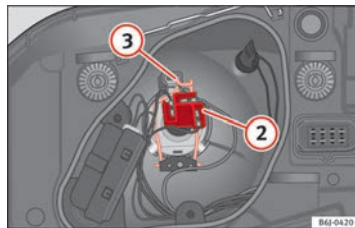

Fig. 159 Dipped beam/main beam, single headlight. ▶
- Remove connector ⇒ Fig. 159 ② from the bulb.
- Unclip the retainer spring ⇒ Fig. 159 ③ pressing inwards to the right.